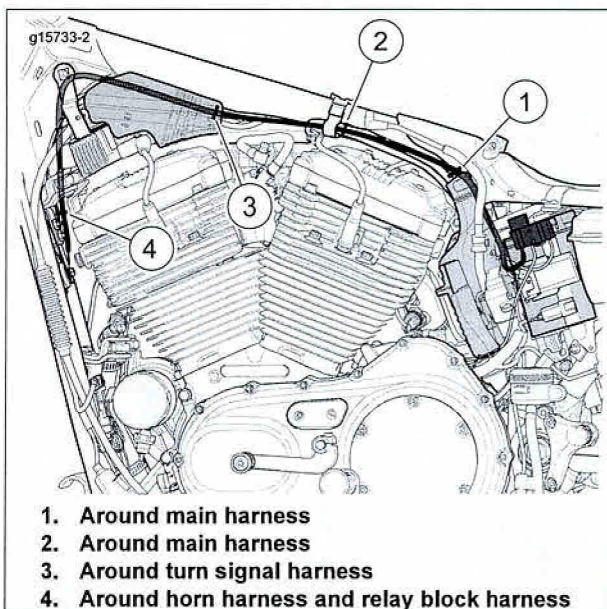

Figure 3. Cable Strap Locations
- f. See Figure 3. Loosely install the four cable straps.